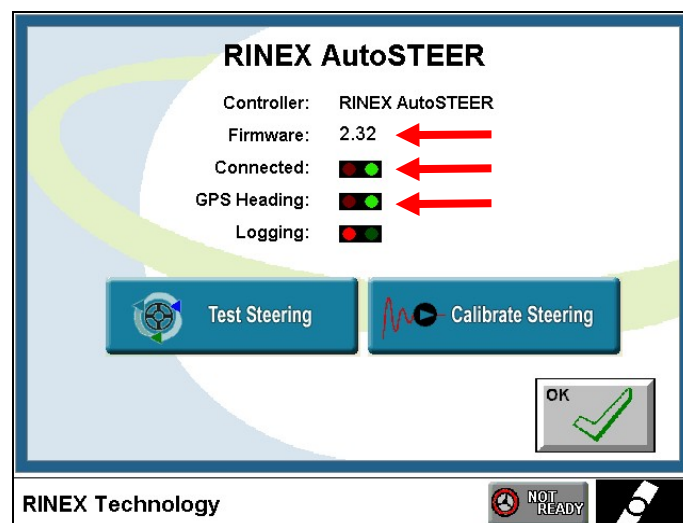

Figure 4-2 RINEX AutoSTEER screen
- 2) The RINEX AutoSTEER screen will be displayed. Check that the firmware version is 2.32 or newer (3.02 or newer is required if Tilt Compensation is installed); there is a green light next to Connected and a green light next to GPS Heading. The Logging light is normally red unless logging steering data is temporarily turned ON. See Figure 4-2.